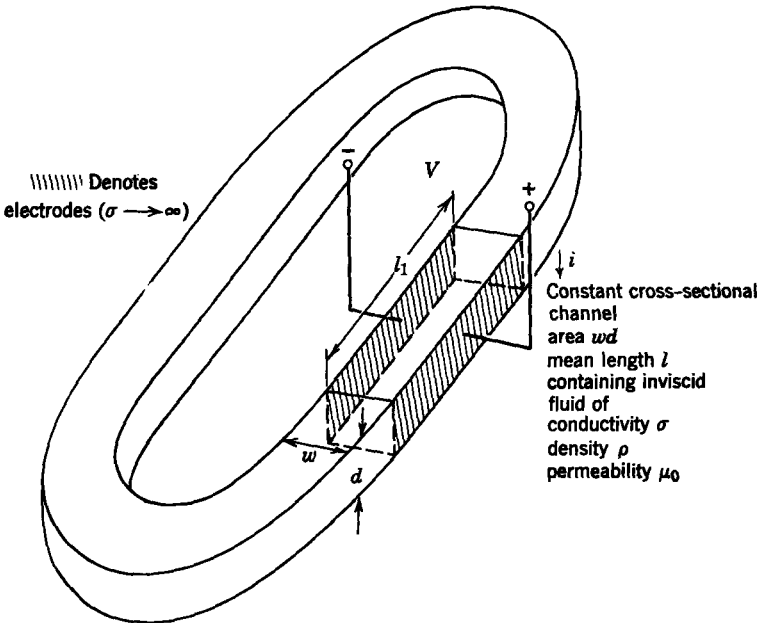

Fig. 12P.32
12.32. An energy storage element is to be made by using a closed channel of incompressible inviscid fluid of conductivity σ , permeability μ_0 , and mass density ρ , with an MHD conduction machine for coupling (Fig. 12P.32). The channel has constant cross-sectional area wd and mean length l and the radius of the bends is large compared with the channel width w . The flux density \mathbf{B} is supplied by a system not shown. Assume that the velocity is uniform across the channel and neglect end and edge effects and the magnetic field induced by current in the fluid. Find an equivalent electric circuit as seen from the electrical terminals and evaluate the circuit parameters.